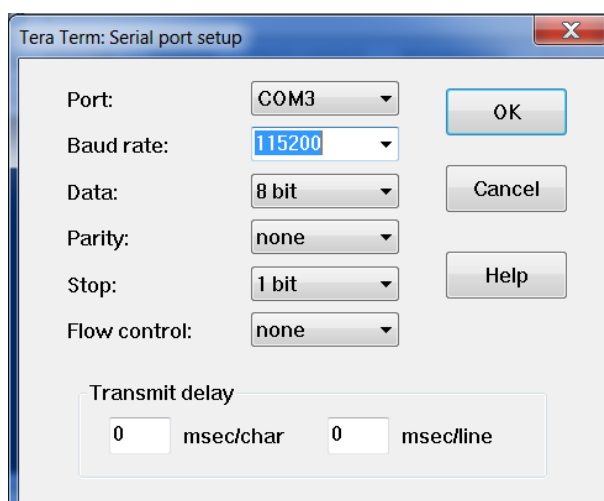

Figure 21: Configuration of the Serial Terminal
2. On a Linux Host connect the terminal program to `/dev/ttyUSB0` and use the same serial port configuration options shown in Figure 21.